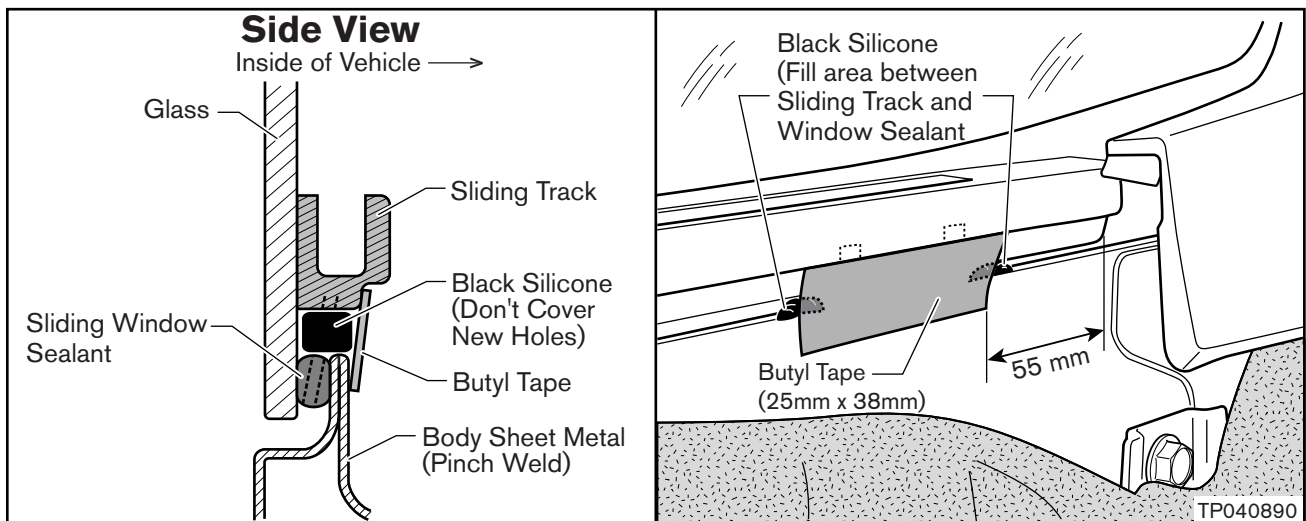

Figure 8
a. First, apply a piece of Butyl Tape (at the drilled holes location) over the gap between the Sliding Track and the body sheet metal (pinch weld). See Figure 8.
b. Then, apply Black Silicone Sealant at each end of the Butyl Tape to fill up the area between the bottom of the Sliding Track and the top of the Window Sealant (see Figure 8).